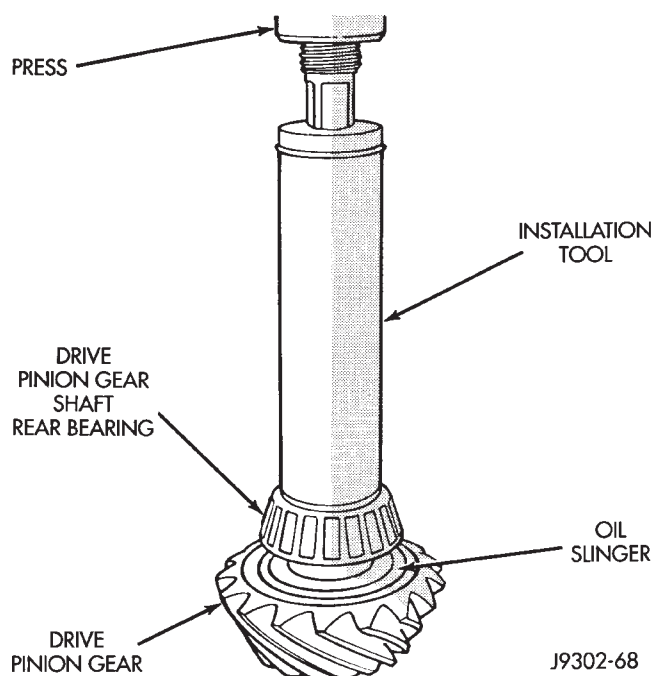

Fig. 53 Rear Bearing Installation
(3) If used, place the oil slinger on the pinion gear. Install the rear (inner) bearing on the pinion gear with Installer W-262 (Fig. 53).